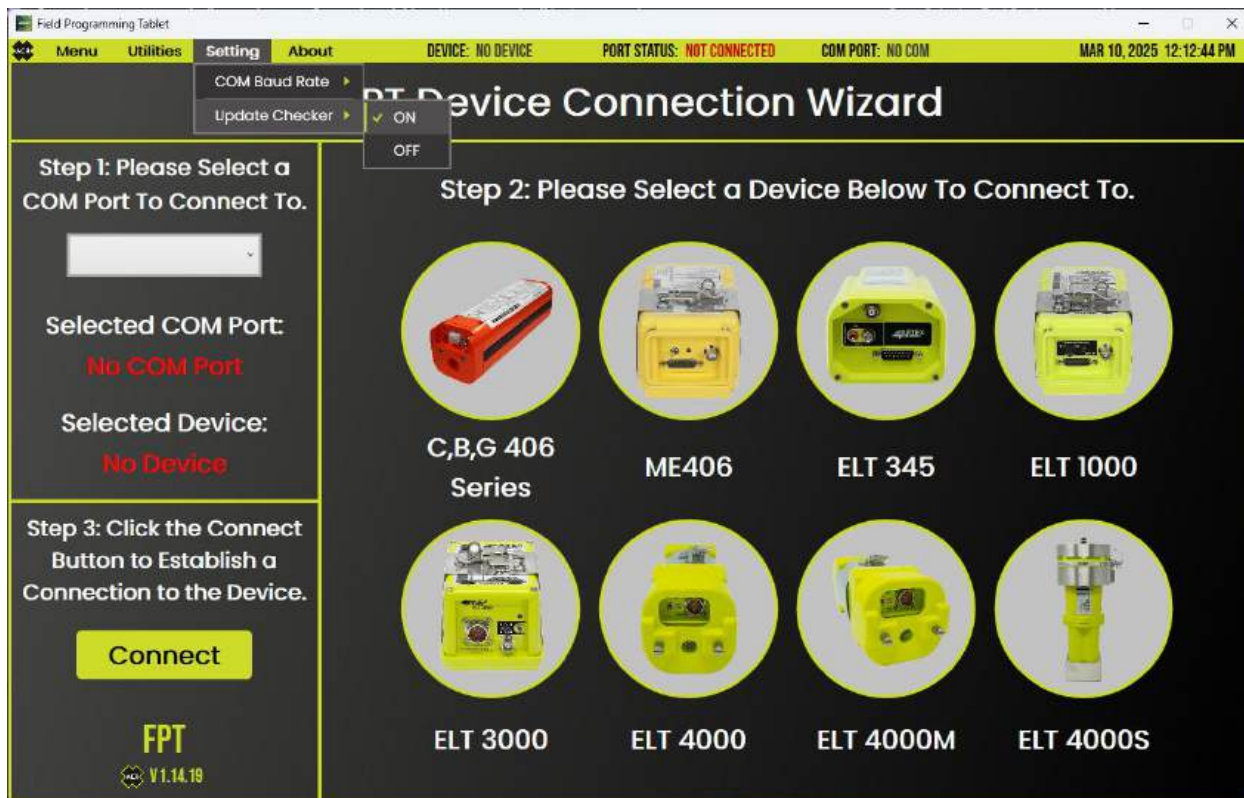

Figure 32 - FPT Update Preference
3. To turn off automatic updates, select the **Utilities** menu item at the top of the screen (Figure 32) then select **Update Checker -> OFF**.